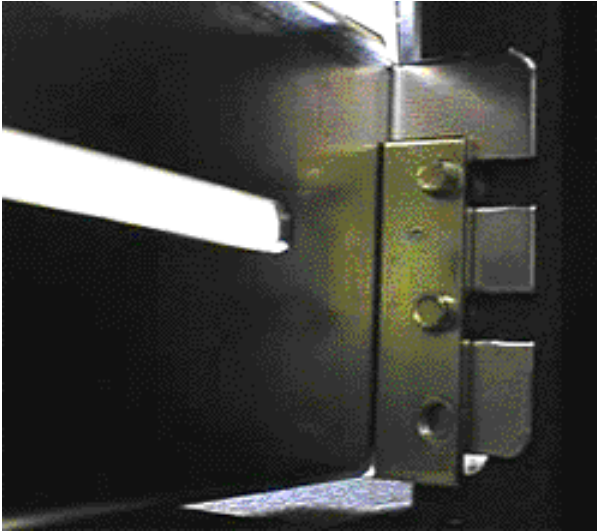

Figure 8 - Extender Bracket and Threaded Spacer Attached to Precision Rack Rail
- c. To attach the 1st Extender Bracket to the Front of the Precision Rack Cabinet, insert a 10-32 Flathead screw into each hole, from in front of the rail. Place a Threaded Spacer (see Figure 8) behind the rail, making sure the thick edge is facing the inside of the cabinet. Screw the 10-32's into the Threaded Spacers, leaving a gap for the Extender Bracket. Slide the lip end of the Extender Bracket over the screws, behind the rail and in front of the Threaded Spacer (see Figure 8). As you tighten the screws, push the Threaded Spacer firmly to the inside of the cabinet, and push the Extender Bracket firmly to the outside of the cabinet. This will allow for proper spacing.